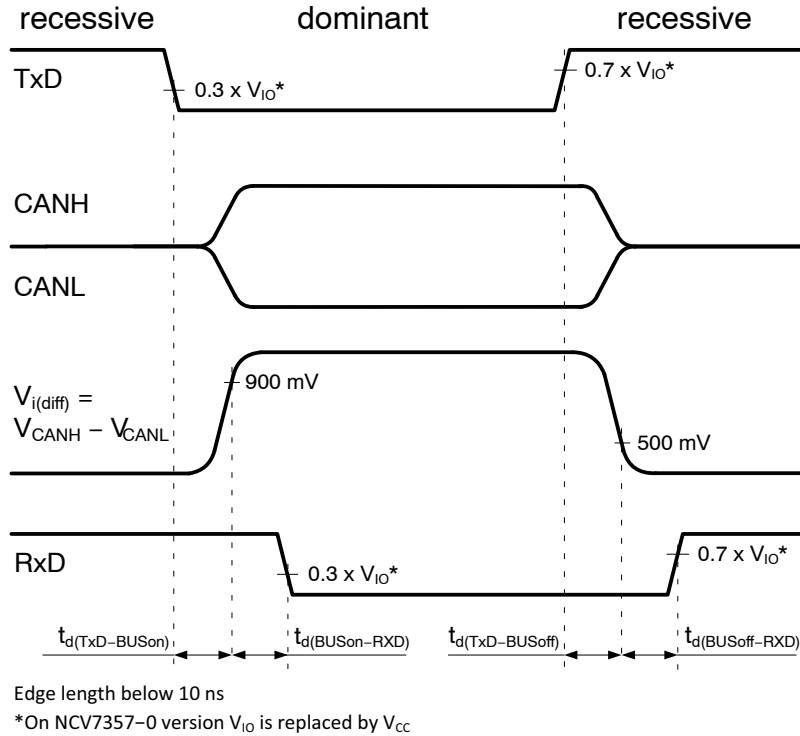
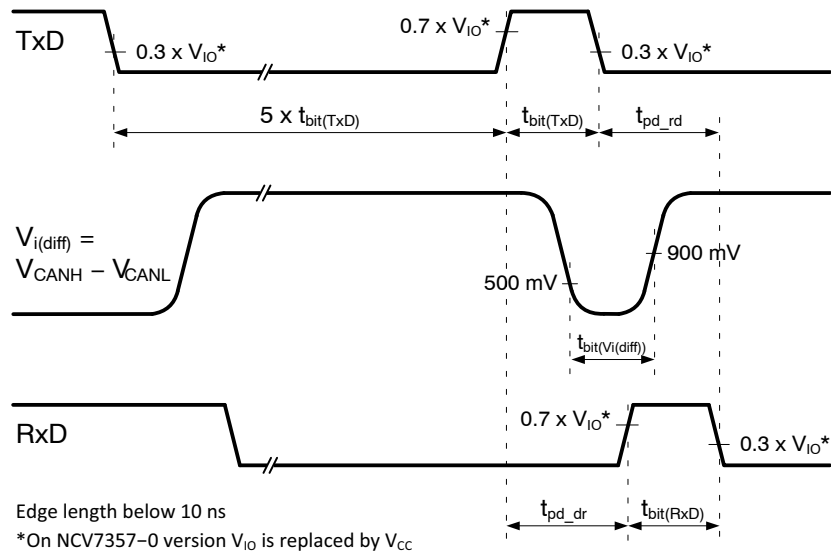
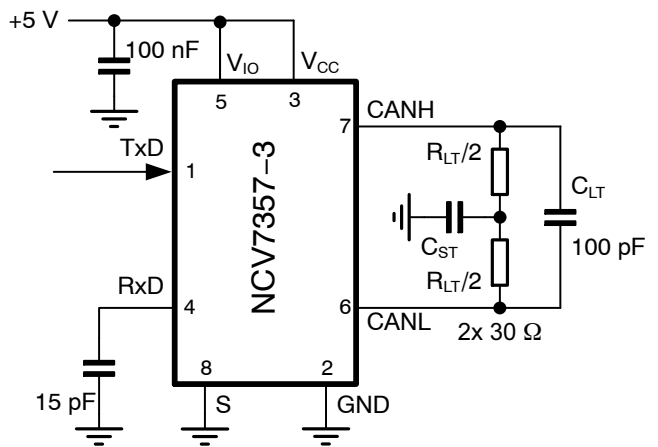

Figure 5. Transceiver Timing Diagram - Propagation Delays
Figure 6. Transceiver Timing Diagram - Loop Delay and Recessive Bit Time
Figure 8. Test Circuit for Timing Characteristics
**TIMING CHARACTERISTICS (see Figure 5, Figure 6 and Figure 8)**